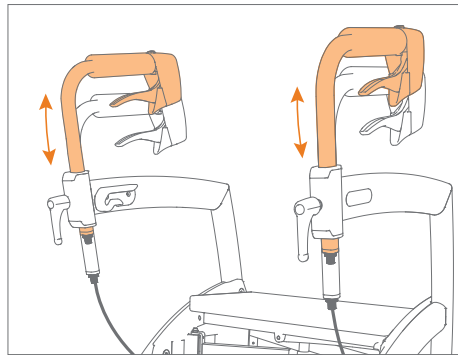

Figure 24: Set the correct height.
- c. Slide the handles to the correct height (**Figure 24**).